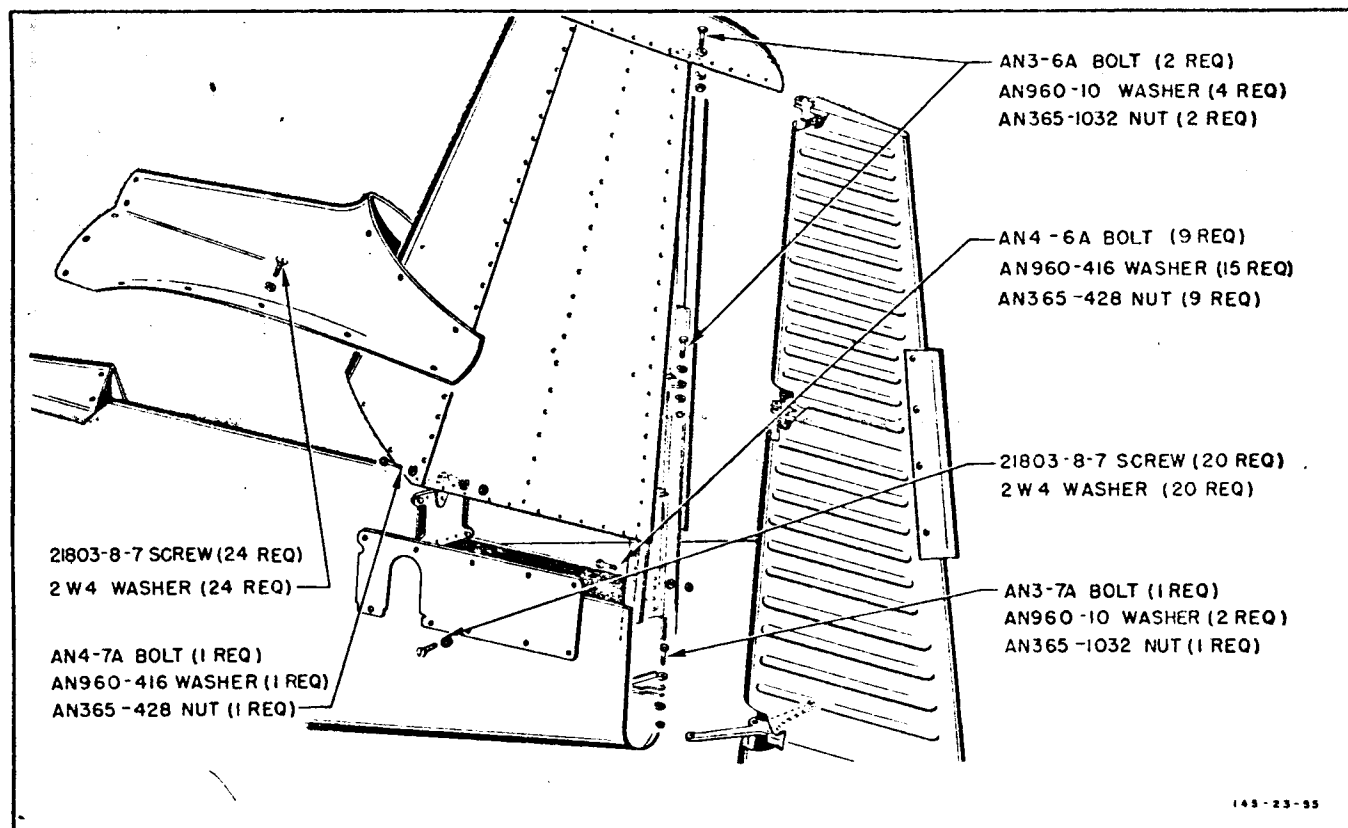

Figure 16 - VERTICAL STABILIZER AND RUDDER INSTALLATION
**Installing and Removing Vertical Stabilizer with Fairing**—The parts necessary to attach or detach the vertical stabilizer are shown in figure 16.
**Installing and Removing Rudder**—The parts necessary to attach or detach the rudder are shown in figure 16.